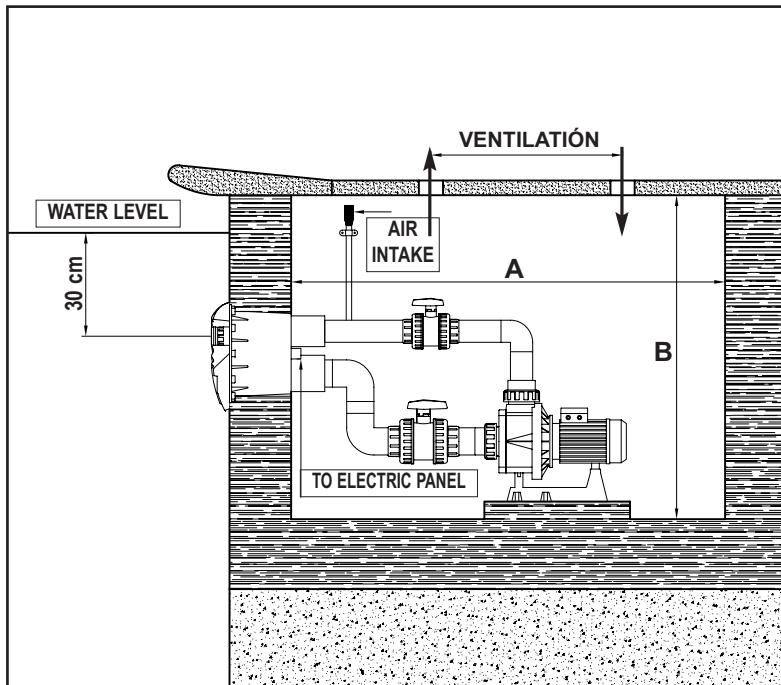

Fig. 8
**10.1** Before installing the HIDROJET equipment it is necessary to take into account the dimensions of the housing in which it will be located. You should check to ensure that you will not have space problems when installing the pump. To do so, check the minimum clearances needed for the installation, as shown in the table and in Figure 8.